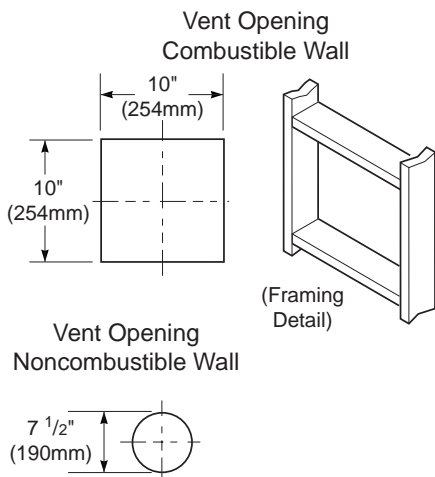
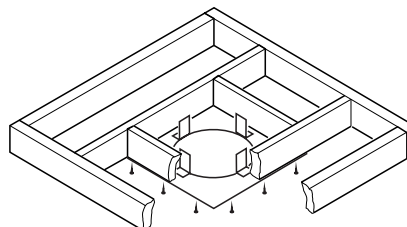

Figure 12 - Vent Opening Requirements
Figure 22 - Installing Firestop
- Attach vent pipe assembly to the fireplace. Set fireplace in front of its permanent location to insure minimum clearances. Mark the wall for a 10" square hole (for noncombustible material such as masonry block or concrete, a 7 1/2" diameter hole is acceptable). See Figure 12. The center of the hole should line up with the center-line of the horizontal rigid vent pipe. Cut a 10"x10" (254mm x 254mm) square hole through combustible exterior wall (7 1/2" [190mm] diameter hole if noncombustible). Frame as necessary (see Figure 12).
1. Cut a 10" square hole in the ceiling using the locating hole as a center point. The opening should be framed to 10"x10" (254mm x 254mm) inside dimensions, as shown in Figure 12 on page 9 using framing lumber the same size as the ceiling joists. If the area above the ceiling is an insulated ceiling or a room, nail firestop from the top side. This prevents loose insulation from falling into the required clearance space. Otherwise, install firestop below the framed hole. The firestop should be installed with no less than three nails per side (see Figure 22).
3. Cut a hole in the roof using the locating hole as a center point. (Cover any exposed open vent pipes before cutting hole in roof.) The 10"x10" hole must be measured on the horizontal; actual length may be larger depending on the pitch of the roof. There must be a 1" clearance from the vent pipe to combustible materials. Frame the opening as shown in Figure 12 on page 9.